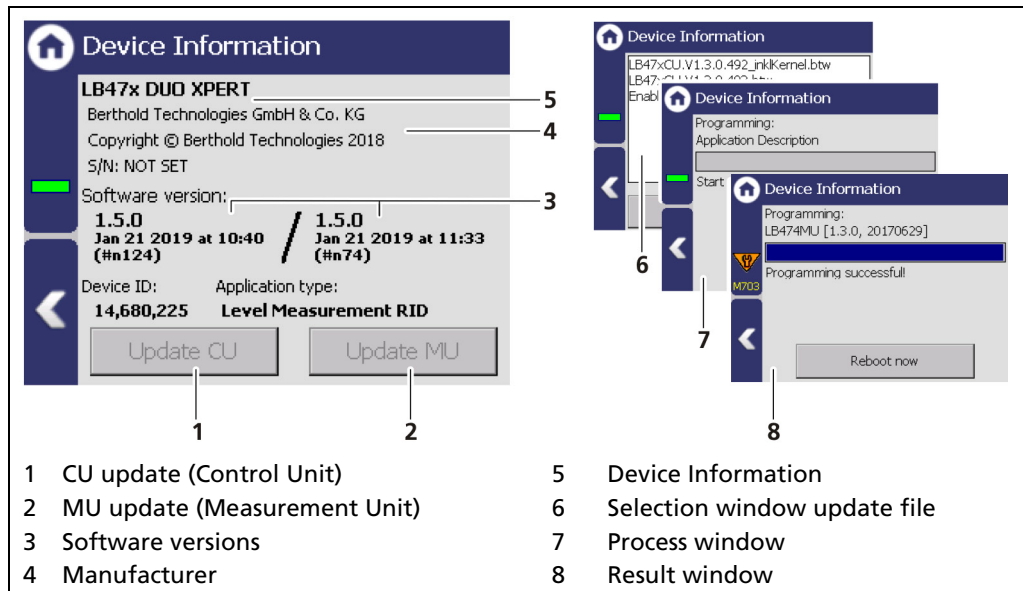

Fig. 35 Device Information
4. The USB storage device is recognized by the system after a few seconds and the <CU Update> (Fig. 35, item 1) button can be clicked.
- ▶ The selection window "update file" (Fig. 35, item 6) opens.
5. Select the appropriate file and click on the button <CU Update> (Fig. 35, item 1). Confirm with <Yes>.
4. The USB storage device is recognized by the system after a few seconds and the <MU Update> (Fig. 35, item 2) button can be clicked.
5. Select the appropriate file and click on the button <MU Update> (Fig. 35, item 2). Confirm with <Yes>.